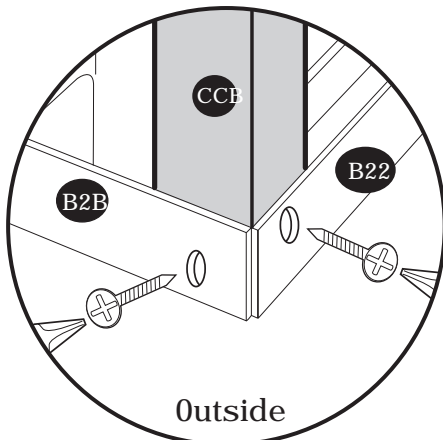

fig. 1
12. From outside back of the shed detach the base angles from the corner column (CCB) at both corners and remove the corner columns. See fig. 1. From inside detach the (B21) & (B22) base angles from middle column (CMB). See fig. 2.